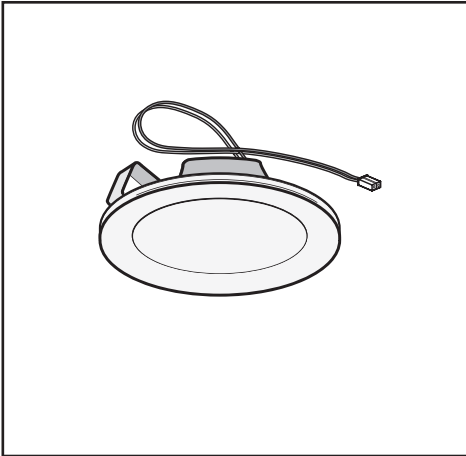

Fig.9
- **Replacing light Leds “1.1 W” (Fig.9):**